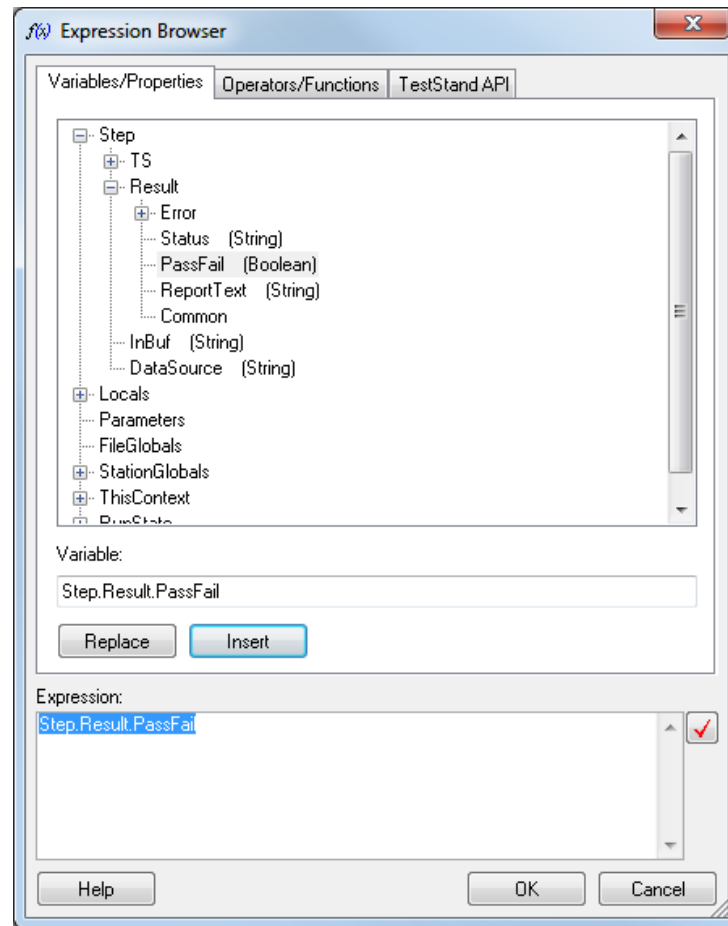

Figure 1-9. Use Expression Browser to Build an Expression
- Navigate to **Step.Result.PassFail** as shown in Figure 1-9.